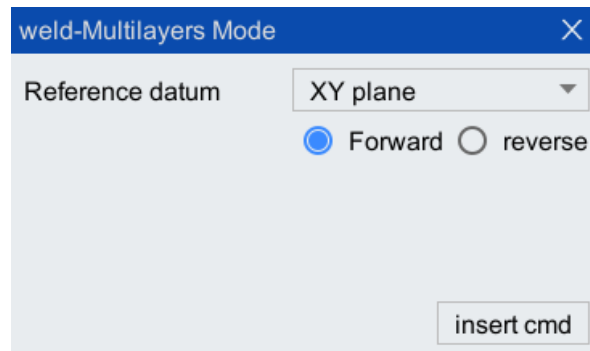

Figure 10-8 Multi-layer multi-channel mode instruction configuration interface
Step2. Click [Insert cmd/Function Package/weld/ Welding Command/Multilayers Mode], configure [Reference datum] as "XY plane" in the pop-up configuration interface (as shown in Figure 10-8), and click to select [Forward]. After the configuration is complete, click <Insert cmd>.